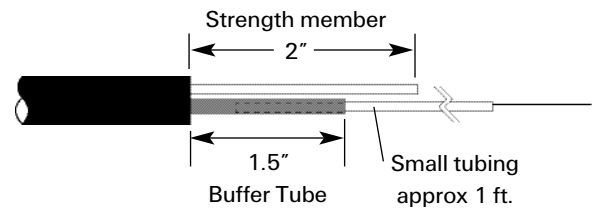

Figure 5
4. To prepare drops, ring cut and remove 48" - 58" of cable jacket. Remove all but 1.5" of buffer tube if present. Place fibers in the small tubing (approx. 1 ft. length) and slide tubing inside buffer tube 1". Cut the strength member(s) 2" from the ring cut (Figure 5).